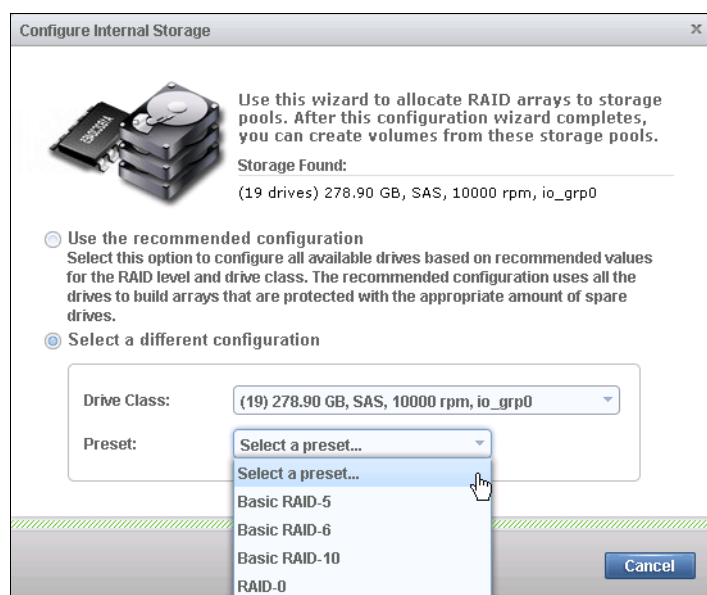

Figure 7-19 Select a RAID preset
2. Select an appropriate RAID preset (Figure 7-19).